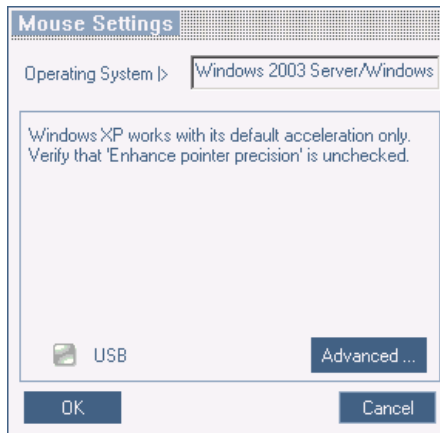

Figure 21 The Mouse Settings box
1. Select **Mouse / Manual Settings**. The **Mouse Settings** box appears see Figure 21.